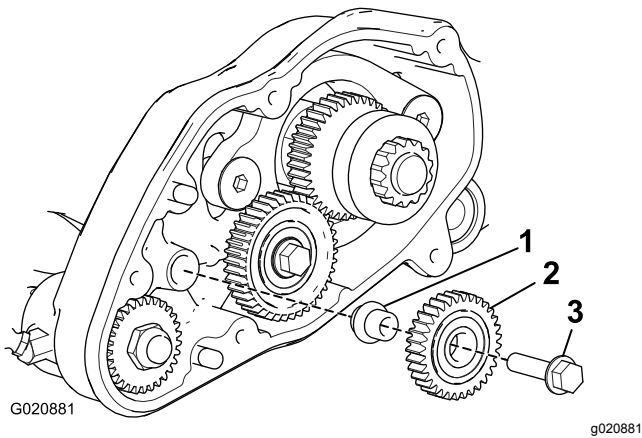

Figure 13
3. Remove the center gear assembly, saving the gear and discarding the bushing and bolt (Figure 13).